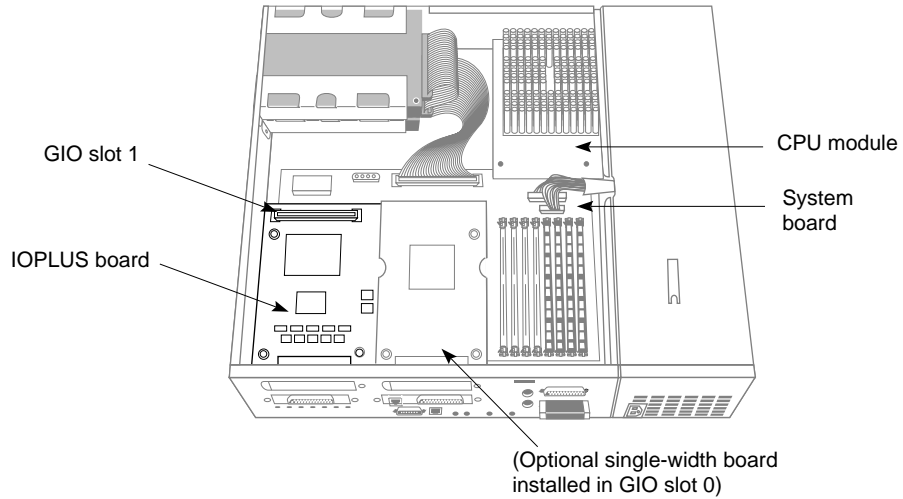

Figure 2-7 Challenge S System Boards and GIO Slot Numbers
Optional boards are installed on the GIO slot connectors of the IOPLUS board. Figure 2-7 shows the various standard boards, the GIO slot numbers, and an optional board.
- The MC1 ASIC performs functions such as the GIO64 bus arbiter, which provides an interface between the CPU and the GIO64 bus. It is also the memory controller, allowing direct memory access (DMA) by devices other than the CPU. Note that DMA is supported only on GIO slot 0. See Figure 2-7.